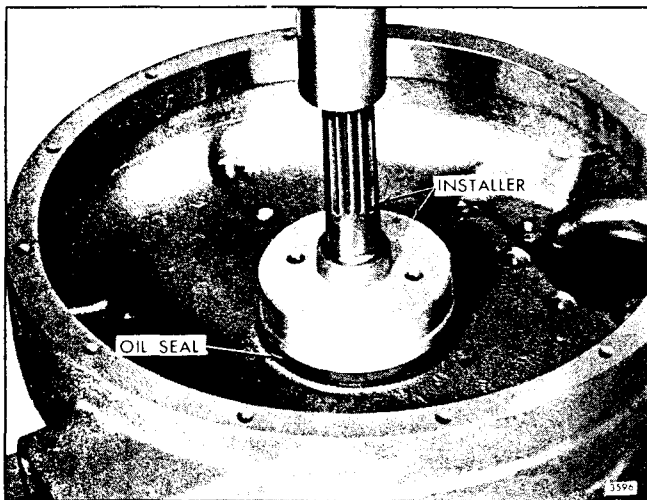

Fig. 6 - Installing Oil Seal in Flywheel Housing
4. On In-Line and 6V engines, use installer J 9479 to press the oil seal into the flywheel housing until the seal is flush with the outside face of the housing (Fig. 6).